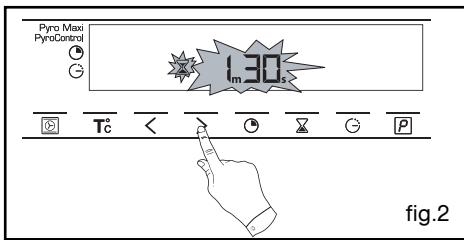

fig.2
- Adjust the chosen time by pressing the < or > buttons (fig.2).